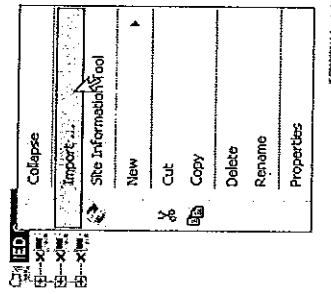

Figure 29: Import an IED from the context menu
1. Right-click the bay and select *Import ...* to select the IED configuration file (\*.pemi), see Figure 29.